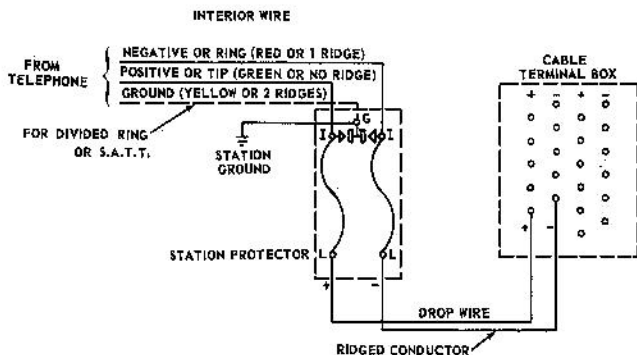

Figure 2. Typical connections to protector, etc.
2.1 Line polarity. Connection instructions in this bulletin assume the interior wires between the protector (or P.B.X. switchboard, etc.) and the telephone location in the subscriber's premises have their polarities identified by standard tracers shown in figure 2. Line polarity is important in divided-ring stations, etc.
Connect the line cord and interior wire to connecting block(s) per figures 2 and 3 or 4.